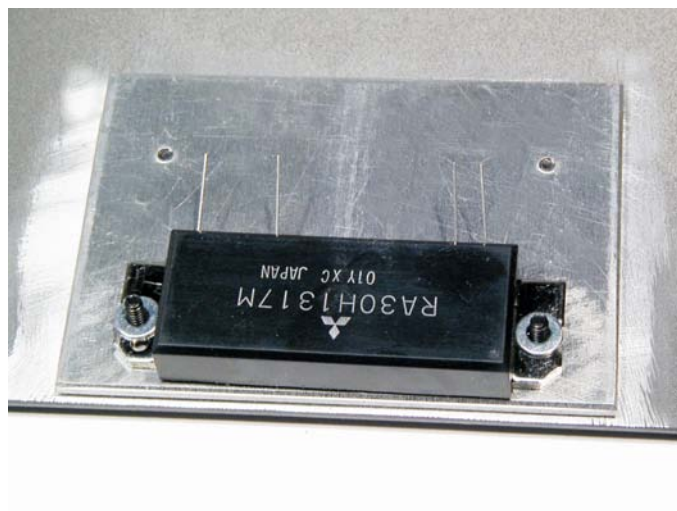

Figure 33. RF Power Module and Flat Washers in Place on the Heat Spreader.
- Position the RF power module on the two screws as shown in Figure 33. Be sure the thermal conduction pad on the heat spreader is resting directly against the bottom of the RF power module.
- Place a flat washer on each screw as shown in Figure 33.